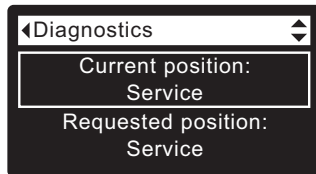

FIG. 114
4. Press the UP (▲) button to scroll through the list until **Current position** is displayed (See Figure 114).